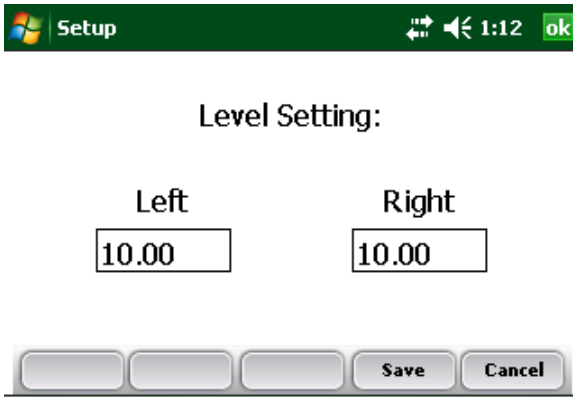

Figure 3-31: Level Detect Sensor Settings main screen
2. The Level Detect Sensor Settings screen appears (see Figure 3-31).